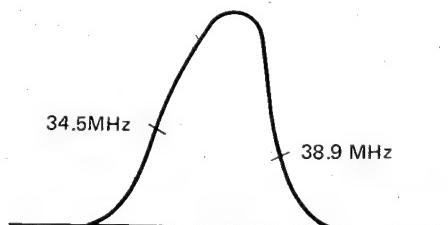

Figure 9. Overall Response Curve
I.F. Overall Response	I.F. Overall Response should be as shown in Figure 9.